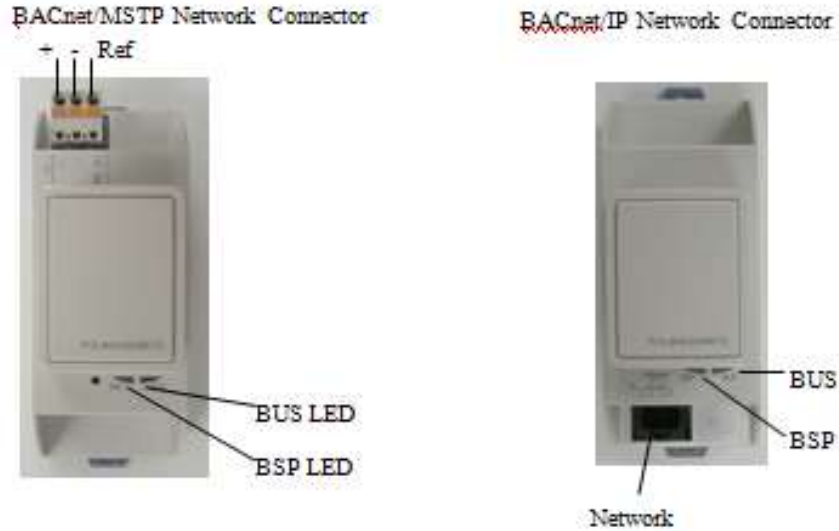

Figure 16. BACnet Communication Module Components.
Figure 16 shows the location of the major components of the BACnet Communication Module.
The BACnet Communication Module has a BSP LED and a BUS LED to indicate communication activity and status of the BACnet Communication Module. These indicators are visible when the communication module is connected to the Unit Controller and the unit is powered on (see Figure 16).
An RS485 connector connects the BACnet Communication Module to the MS/TP Network and has three pins: +, -, and ref. See Figure 16.
6. Insert the network cable connector into the BACnet Communication Module (see Figure 16 for location of network connector).